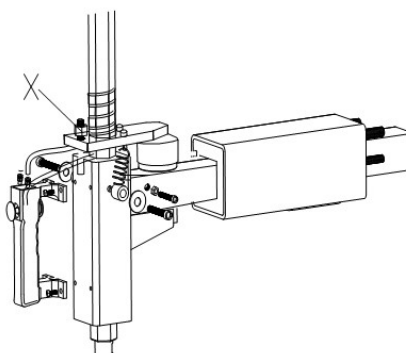

Fig 12
**Note:** If Vertical Arm not be locked or not meet the requirement that 2-3mm from the bottom of Mounting head/demounting head to rim, please adjust Hexagonal Locking Plate, refer to Fig 12 and adjust the (X).